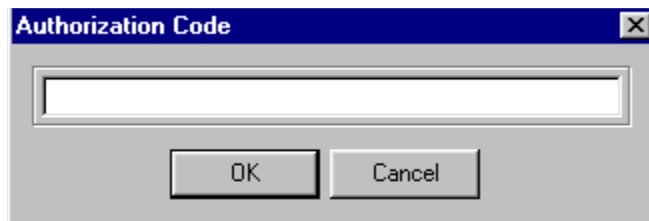

Figure 16: Authorization Code Dialog
6. Enter the authorization code and select *OK* when the Authorization Code dialog opens, see *Figure 16*.